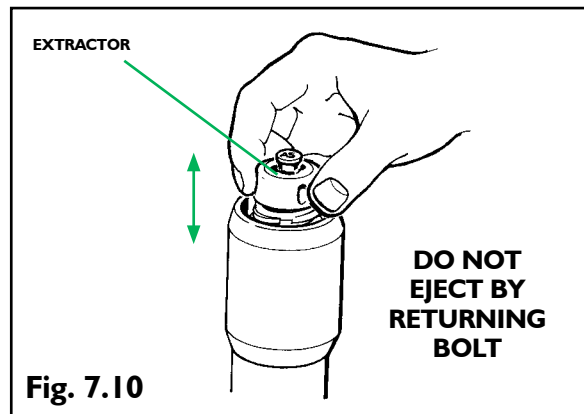

Fig. 7.10
- 5.2 Pull the extractor up and then push back down (see Fig 7.10)